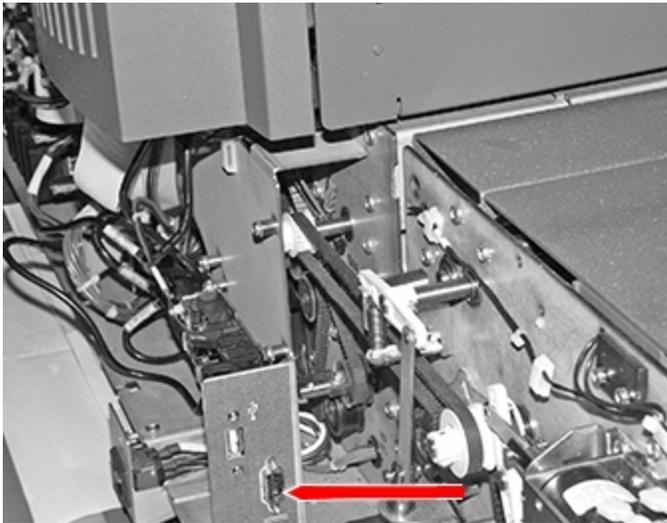

Figure 21 USB Port on Base Unit
16. Connect the USB cable as shown in Figure 21.